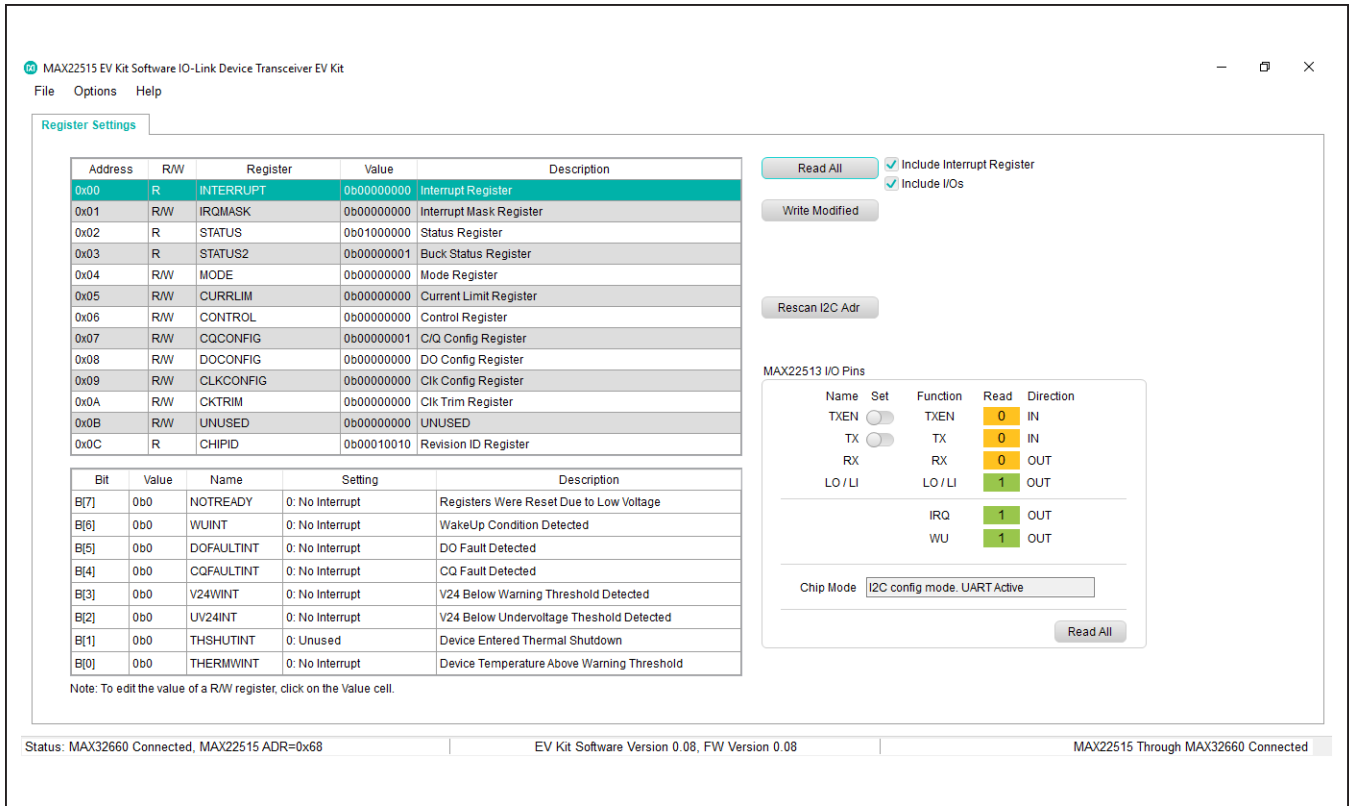

Figure 1. MAX22515 EV Kit Software, EV Kit is Connected
- 6) Start the EV kit software by opening its icon in the Windows **Start | Programs | Maxim Integrated** menu. The EV kit software main window appears, as shown in Figure 1.